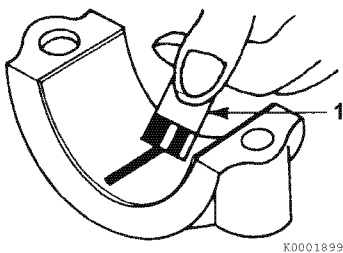

Figure 6-61
- 5- Compare the width of the flattened PLASTIGAGE to the graduation marks on the package (Figure 6-61, (1)). The mark that most closely matches the width of the flattened PLASTIGAGE will indicate the bearing oil clearance.